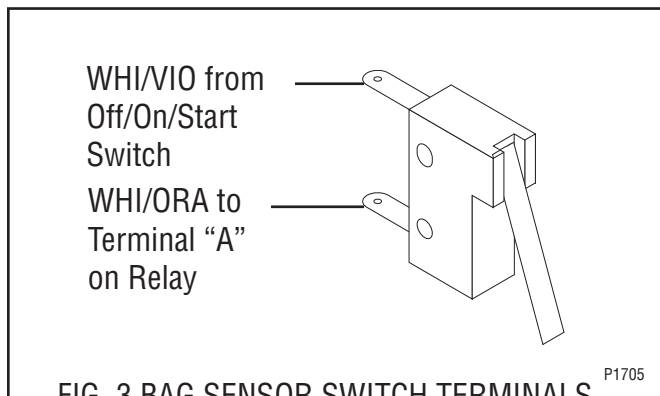

FIG. 3 BAG SENSOR SWITCH TERMINALS
6. Refer to Fig. 3 when reconnecting the wires.